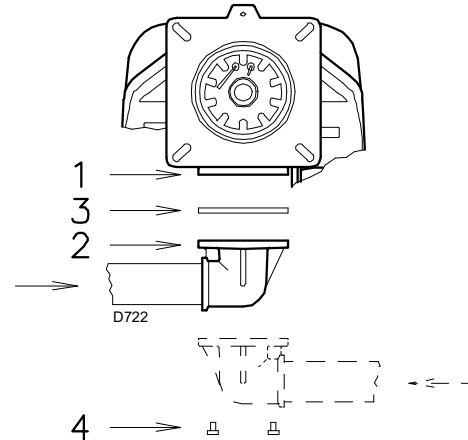

Fig. 20
- The gas train must be connected to the gas attachment 1)(Fig. 20) with the flange 2), the gasket 3) and the screws 4) supplied with the burner.